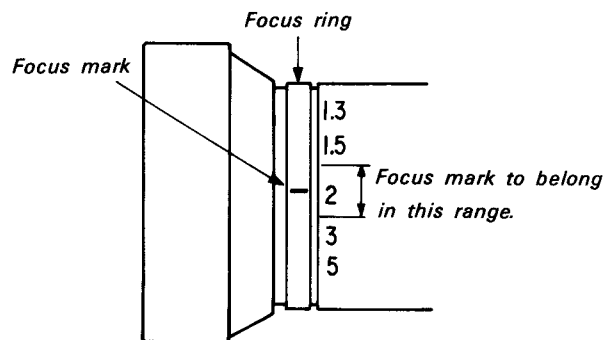
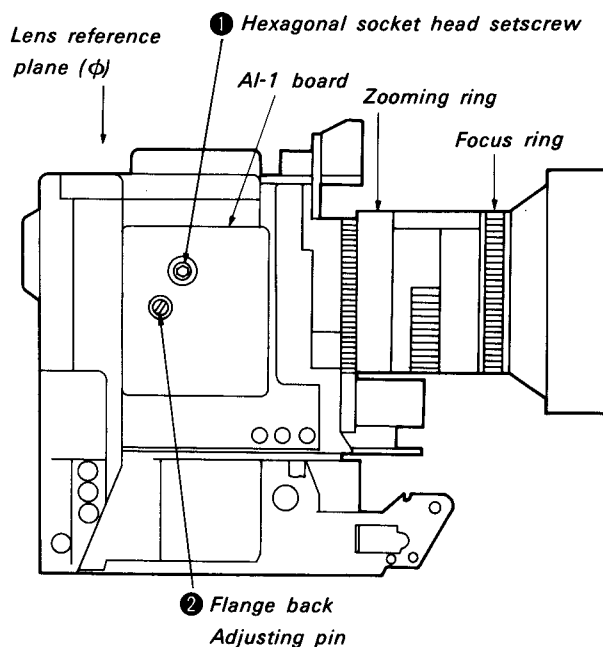

Fig. 7-7.
Fig. 7-9.
- 7) Loosen hexagonal socket head setscrew ① with an L wrench. (See Fig. 7-9).
- 8) By turning flange back adjusting Pin ② while watching the monitor screen, attain the highest definition of a wedge at the Siemens star center on the screen. (Turn it a few times to the right and left, to assure the definition to be the highest.)
- 9) While holding flange back adjusting Pin ② down for any further turns, retighten hexagonal socket head setscrew ①.
- 10) With zoom lever fixed at its WIDE end, turn focusing ring, and set it at a position that provides the highest definition image of the wedge. Check to assure the focusing mark position thus attained to be within the Fig. 7-7 range.